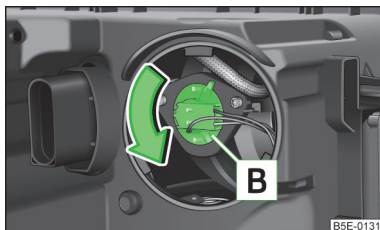

Fig. 224
- Turn the bulb holder **B** » Fig. 224 as far as it goes in the direction of the arrow and remove it.